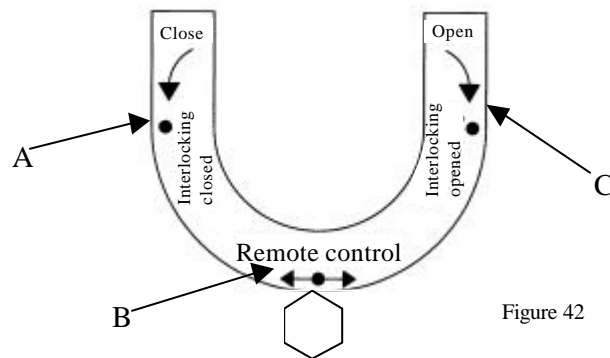

Figure 42
- The operating lever positioned inside the lower part of the tube is set to three positions a), b) and c) (Figure 42) and is retained in any one of them by one, two or three padlocks.
- c) Operating direction for opening and closing, as well as the remote control position are both indicated on the solid front control panel (figure 42)